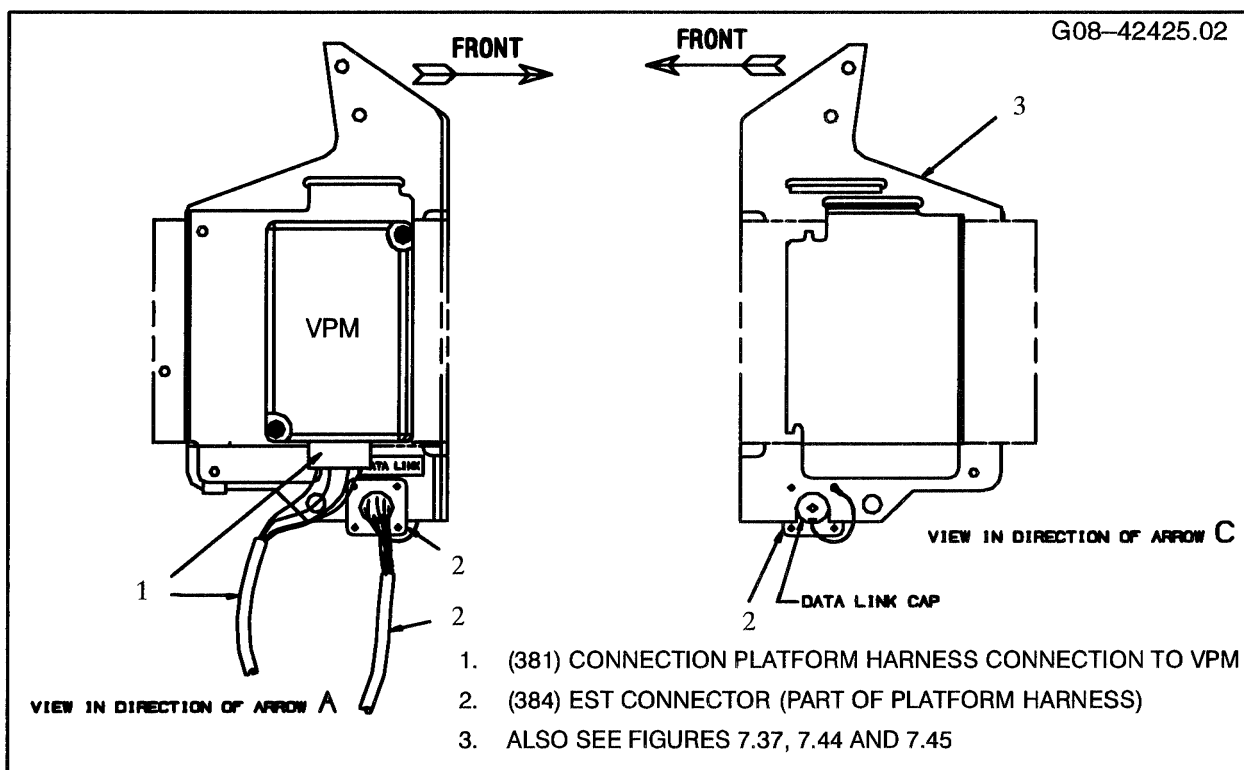

Figure 7.38 – EST (Data Link) and VPM Connections
| 1. CIR 14, BATTERY FEED TO J1 FEED STUD, CONNECTS TO THE ENGINE HARNESS | 17. ECM/IDM/VPM ASSY – SEE FIGURES 7.38, 7.44 AND 7.45 |
| 2. (382) ACCELERATOR PEDAL SENSOR (APS/IVS) CONNECTS TO CAB HARNESS | 18. (384) EST (DATA) LINK CONNECTOR IS ATTACHED TO MODULE BRACKET – FIGURE 7.38 |
| 6. (406) BAROMETRIC AIR PRESSURE SENSOR (BARO) | 22. (381) CONNECTS PLATFORM HARNESS TO VPM – FIGURE 7.38 |